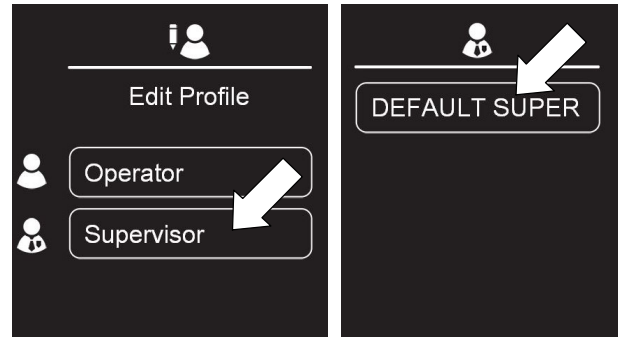

FIG. 200
4. Press the Supervisor button then press the DEFAULT SUPER button (Figure 200).